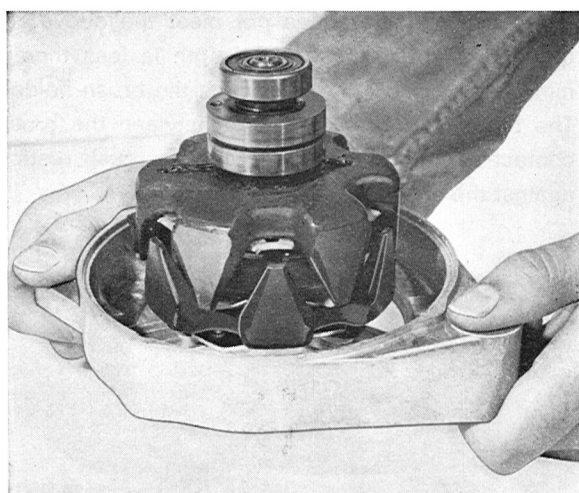

Fig. 3-32. Shield removal
6. Release the three screws holding the support plate of the drive end bearing. Release the bearing by knocking the end of the shaft against a piece of wood, see Fig. 3-32.